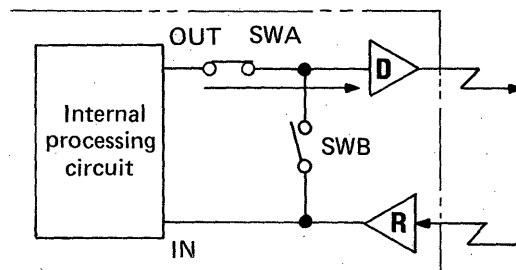

Fig. 3.6 Online - Data Communication
During data sending in the online mode, SWA is closed and SWB is open as shown in Fig. 3.6. Send data transferred from the internal processing circuit are sent from the driver (D) to the next channel via SWA.